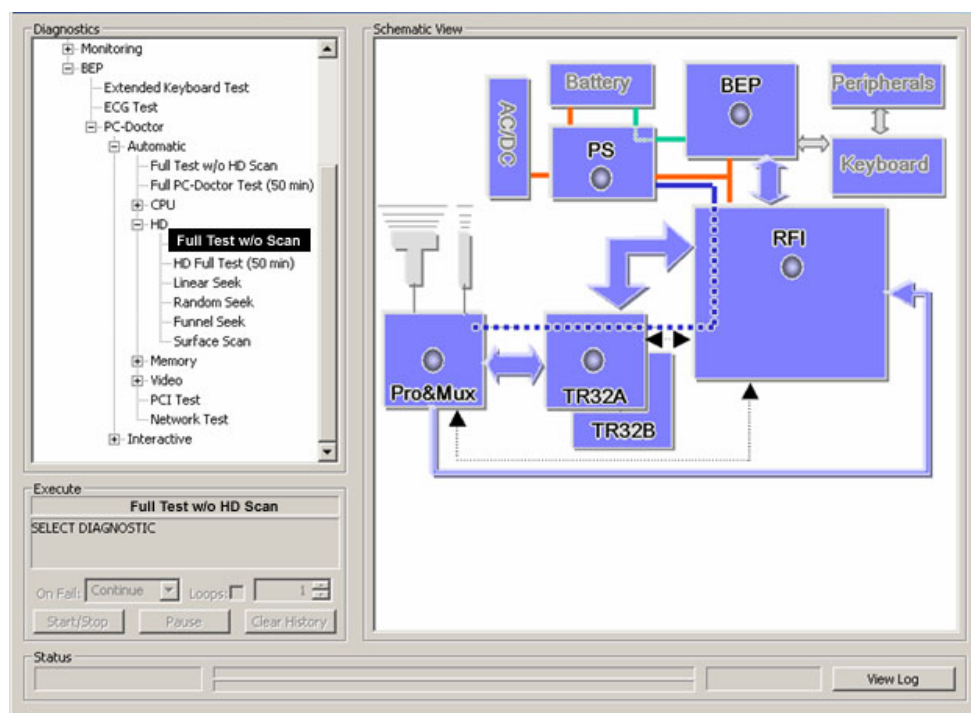

Figure 7-86 Hard Drive Full Test w/o Scan
- 1.) In the *Diagnostic Test* window, trackball to **Hard Drive Full Test w/o Scan** in the list of *HD* tests available for selection from the Diagnostic Test Tree (see Figure 7-86 below) and press **Set**. The Test name is displayed under *Execute*; the relevant system components to be tested are highlighted light blue in the Schematic View (BEP, Peripherals, Keyboard), as shown below: